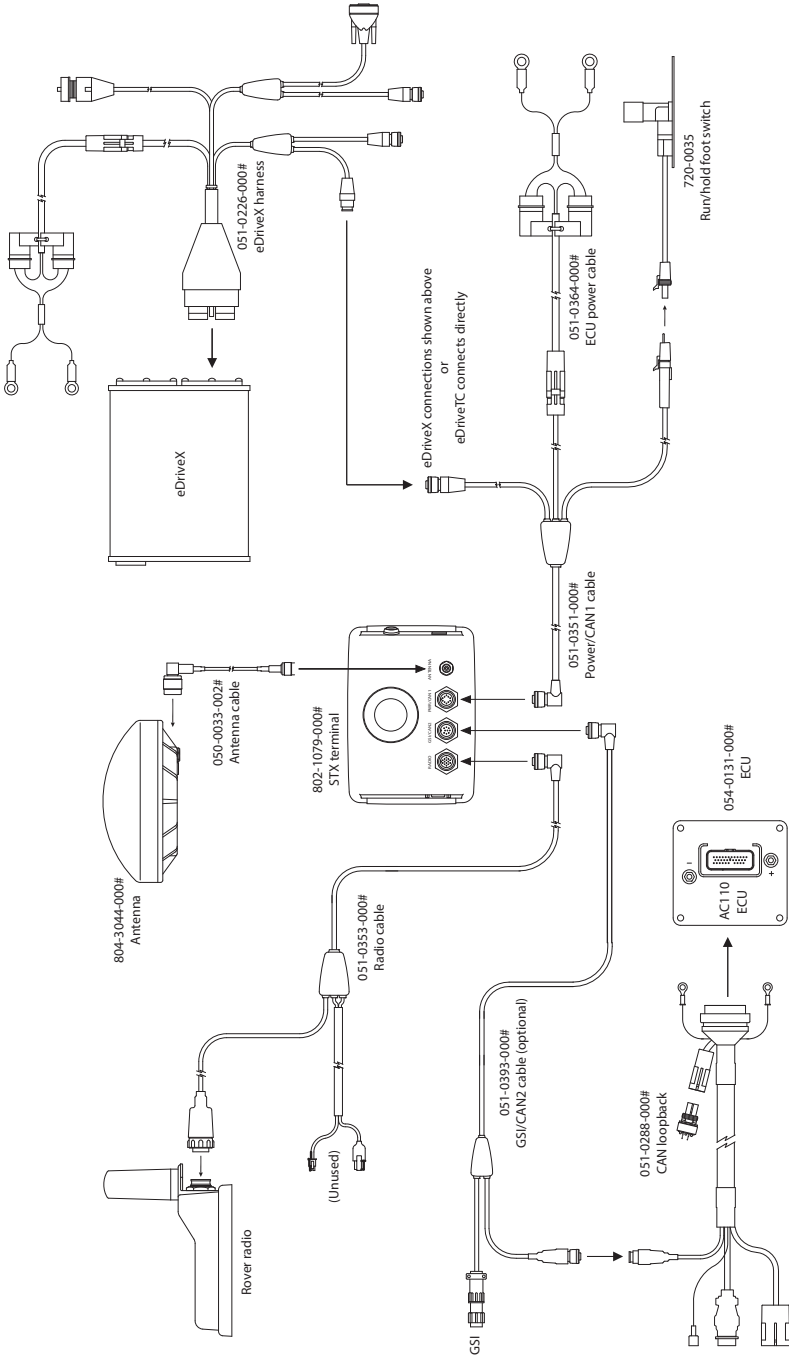

Figure 1-1: STX terminal (front, side, and rear views)
Figure 1-1 shows the front, side, and rear views of the STX terminal and Table 1-2 on page 6 describes the features shown in Figure 1-1 For specific cable/port connections, refer to “Connection Diagram” on page 7.
- Attach the other end of the cable to the terminal (see Figure 1-1 on page 5 and "Connection Diagram" on page 7).
You can use the run/hold foot switch as a remote to pause or restart STX's mapping/data logging function. Using Figure 1-1 on page 5 and "Connection Diagram" on page 7 install the run/hold foot switch as follows:
Using Figure 1-1 on page 5, “Connection Diagram” on page 7, and the photo at right as guides, connect the appropriate cables to the STX terminal. The cables and the ports on the terminal are color coded to make connections easier.